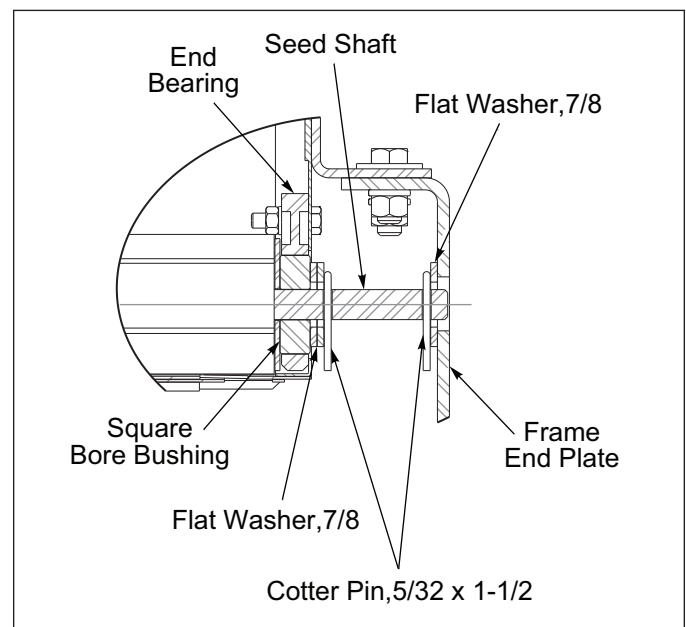

Figure 2-8: Agitator Installation Detail
10. Push two 7/8 Flat Washers against the Square Bore Bushing exposing the Seed Shaft inner hole. Install a Cotter Pin in the Seed Shaft. **See Figure 2-8.**